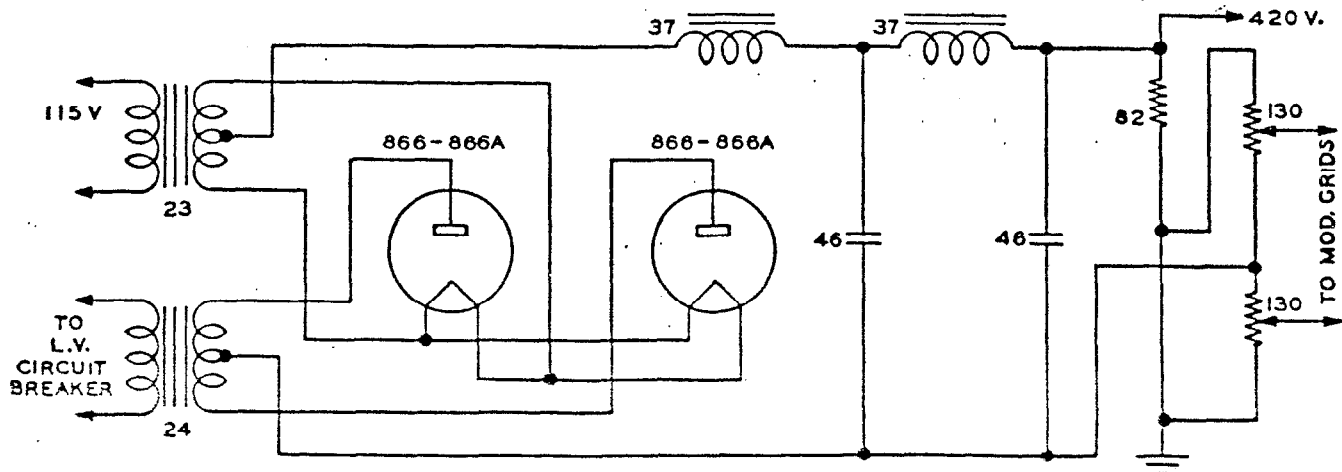

Figure 2-7. Low Voltage Supply
c. **LOW VOLTAGE SUPPLY.** (Refer to figure 2-7.)—Two Type 866/866A half wave mercury vapor rectifier tubes are connected in a full wave rectifier system. Plate voltage is applied to the low voltage rectifiers by the operation of the time delay relay, Item 4, and the closing of the low voltage circuit breaker after approximately 30 seconds have elapsed. The output of the rectifiers is filtered by a two section choke input filter. The negative side is above ground potential. The voltage from this supply is reduced through a voltage dividing system for application to the plates and screens of the oscillator, *40f-3*